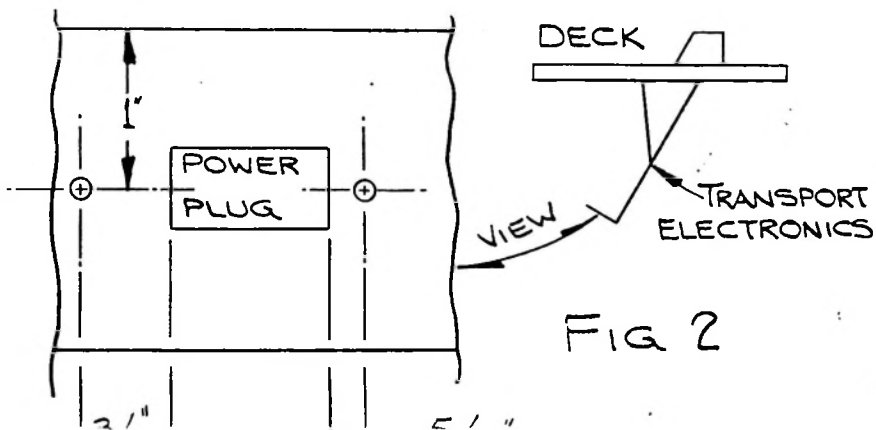

FIG 2
2. Drill two holes in the Deck Electronics Chassis - one on each side of the Power Plug. (See Fig. 2 for the correct positions) Holes should have clearance for a 4-40 screw.